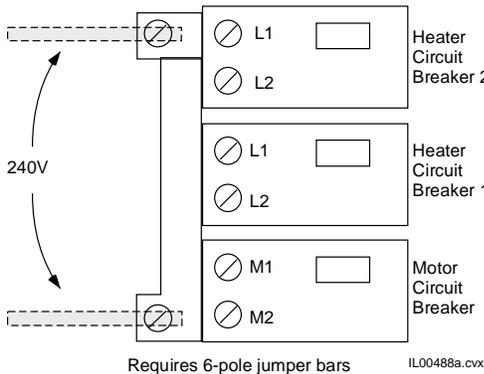

**Figure 11. Combined blower motor and one heater circuit wiring (single phase furnaces only)**
**Combining the motor and heater loads (single phase heaters only).** All single phase furnaces include a 4-pole jumper bar (P/N: A01241-001) to combine the blower motor circuit breaker and one of the heater circuit breakers (figure 11). The combined load can be powered by one fused main circuit sized for both the heater and motor loads. Remove the jumper bars if using a separate power supply for motor and electric furnace as in figure 10.